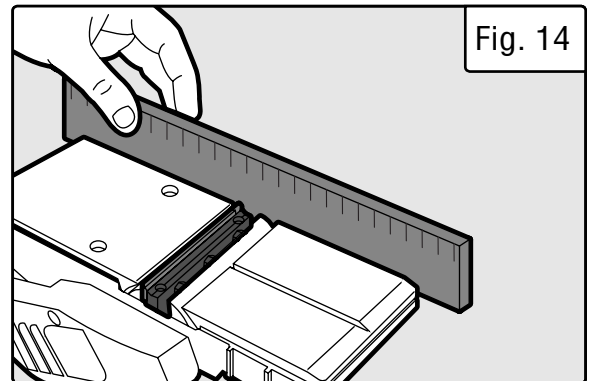

Fig. 14
8. To ensure an even cut, the blade should align with the outside edge of the front and rear shoes. Place a straight edge along the outside edge of the front and rear shoe (Fig. 14). Slide the planer blade to just contact the straight edge so that it is in line with the outside edge of the shoes.